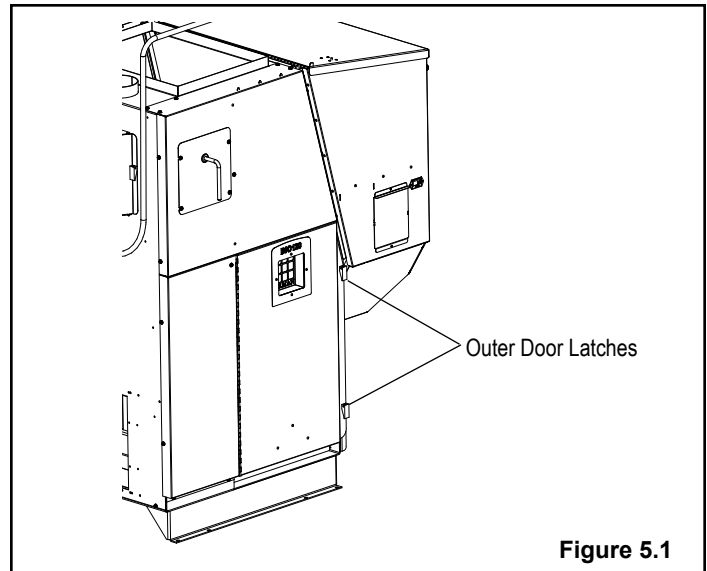
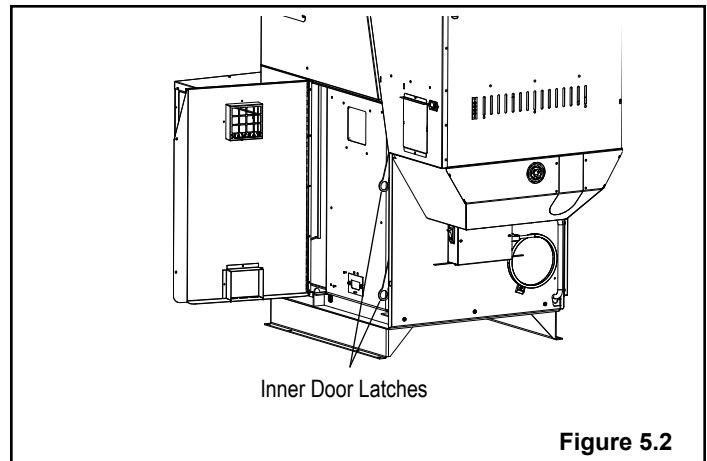
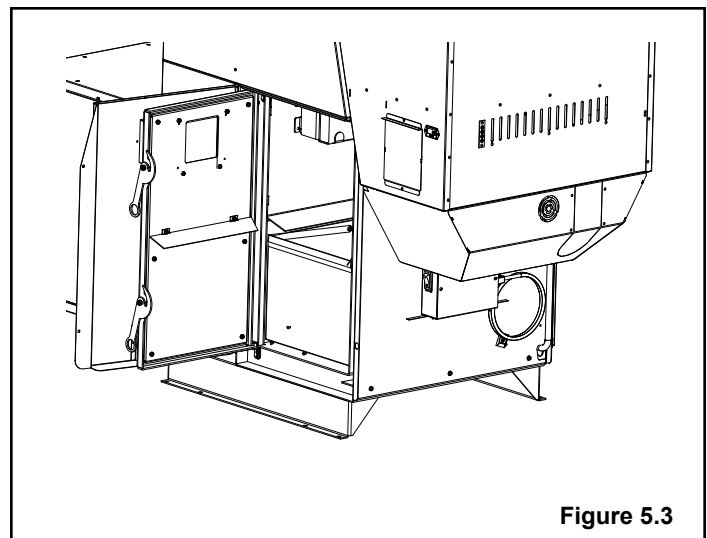

Figure 5.1
Figure 5.2
Figure 5.3
2. **Open inner and outer ash doors as shown in Figures 5.1 thru 5.3. Located in the maintenance and service sections of this manual.**
Lift the two latches shown in Figure 5.1 and open the outer door as shown in Figure 5.2. If the Distribution Blower is running when the outer door is open, some air will escape around the door opening. This is not a problem, however any dust that is caused in the ash removal process can potentially be blown around.
Lift latches shown in Figure 5.2 and open the inner door as shown in Figure 5.3.